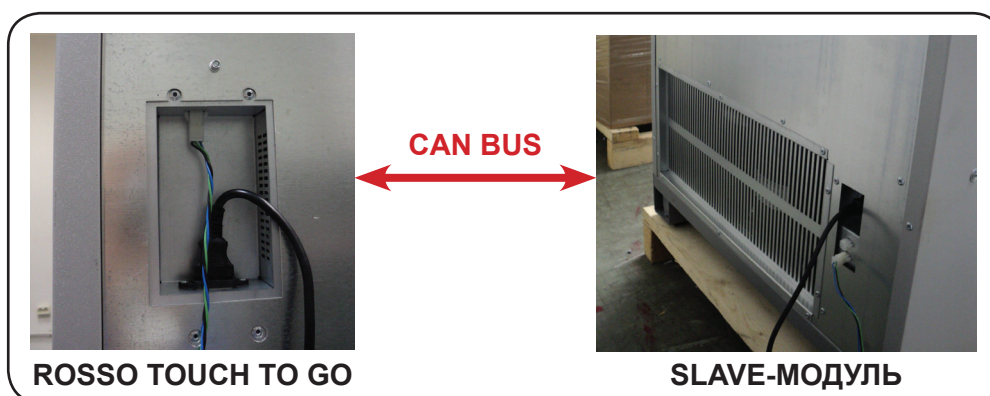

Fig.5.4
- Connect the MASTER vending machine (ROSSO TOUCH TO GO) and SLAVE-modules by the CAN BUS cable (fig.5.4).